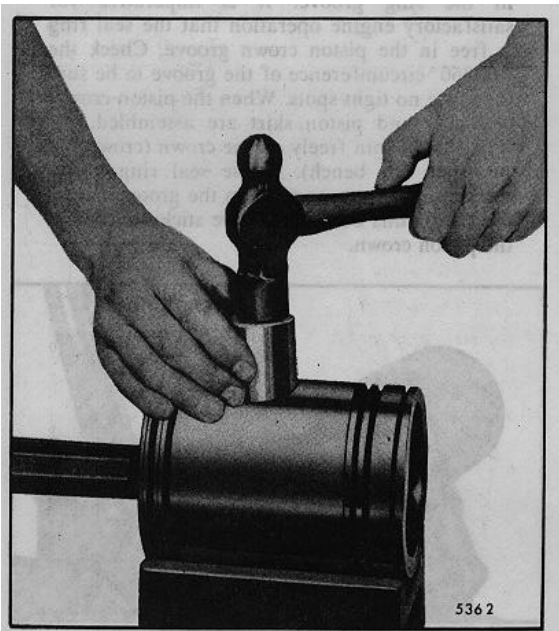

Fig. 9. Installing Piston Pin Retainer using Tool J 23762
8. Place a new piston pin retainer in position. Then place the crowned end of installer J 23762 against the retainer and strike the tool just hard enough to deflect the retainer and seat it evenly in the piston (Fig. 9).